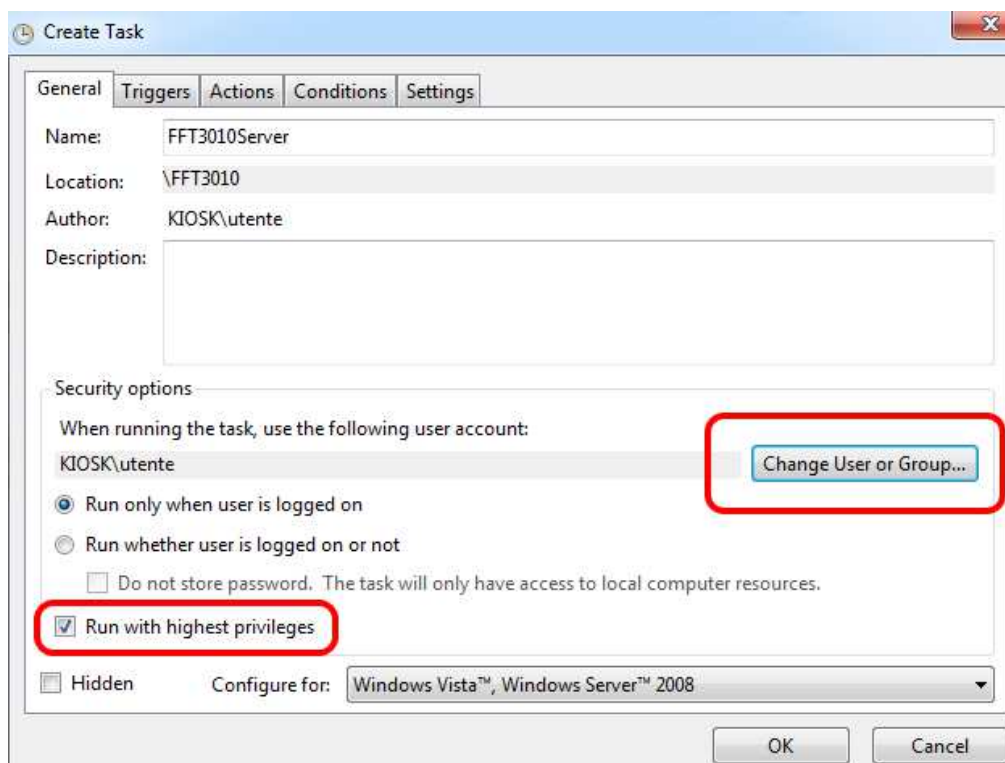

Fig. C.23: Tab General configuration
STEP 3 – In *Create Task* window please select *Tab General* and edit the name of the new task “FFT3110Server (FFT3100Server)”. On *Security options* section select *Run whether the user is logged on or not* checkbox and confirm *Run with highest privileges* checkbox. Proceed clicking on *Change User or Group* option (Fig. C.23).